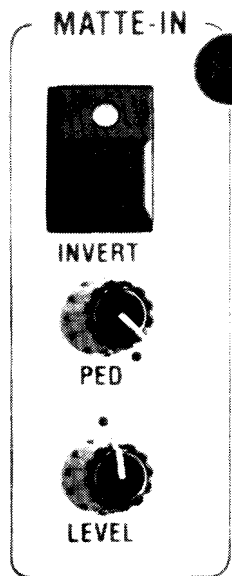

Figure 4-15. Matte-In Control Group
**4-65. MATTE-IN.** (See figure 4-15.)